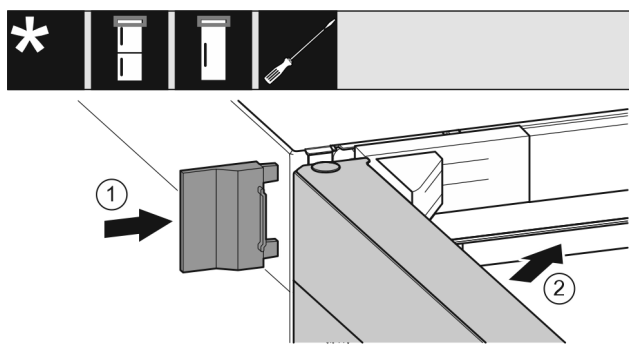

Fig. 43
- ▶ Push the outer cover *Fig. 43 (1)* on.
- ▶ Close the upper door *Fig. 43 (2)*.